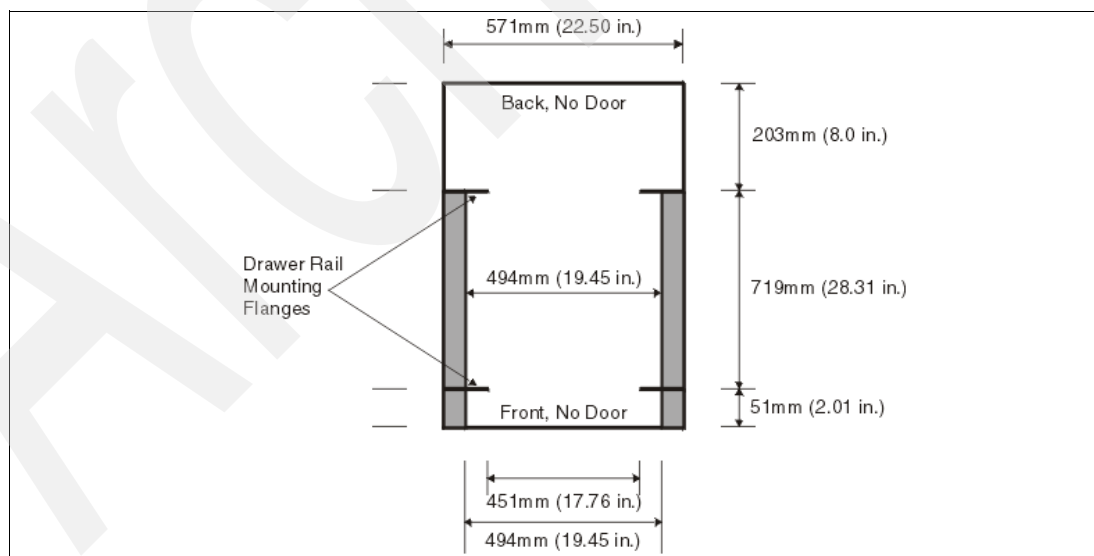

Figure 1-3 Top view of non-IBM rack specification dimensions
- The front rack opening must be 451 mm wide + 0.75 mm (17.75 inches + 0.03 inches), and the rail-mounting holes must be 465 mm + 0.8 mm (18.3 inches + 0.03 inches) apart in the center (horizontal width between the vertical columns of holes on the two front-mounting flanges and on the two rear-mounting flanges). Figure 1-3 shows a top view with the specification dimensions.